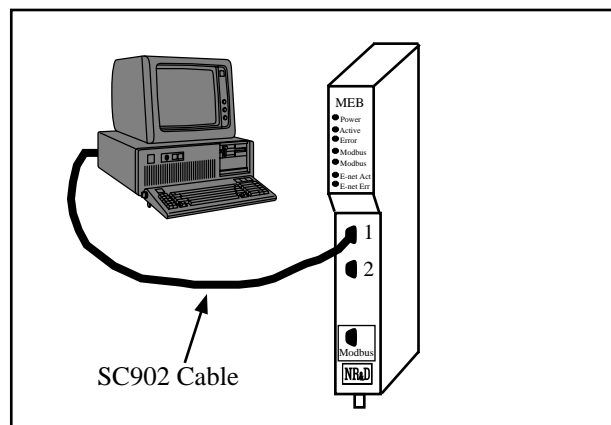

Figure 20-19 MEB Firmware Download
- 6 Connect the personal computer to the Port 1 of the MEB. An SC902 cable provides a convenient method for the RS-232<->RS-422 conversion. (See Figure 20-19)